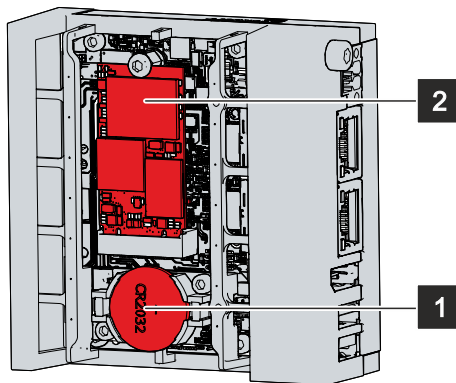

Fig. 25: Battery and storage media
- ⇒ The battery is now in an oblique position (see fig. 25).
5. Push the high side of the battery down into the battery holder (see fig. 25).